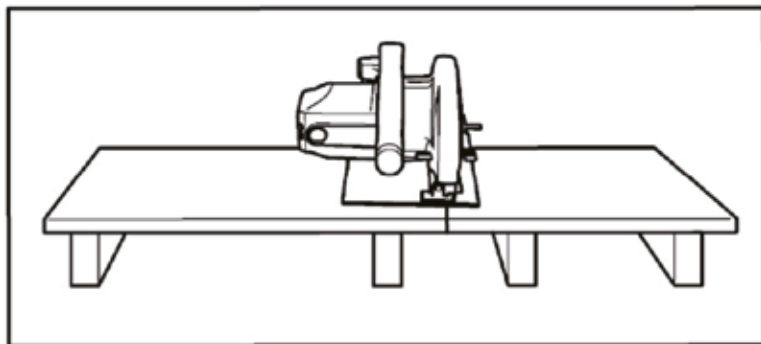

Fig. 1: To avoid kickback, support the board or panel near the cut.
- ▶ Support large panels to minimize the risk of blade pinching and kickback. Large panels tend to sag under their weight. Supports must be placed under the panel on both sides, near the line of cut and the edge of the panel, as shown in Fig. 1.